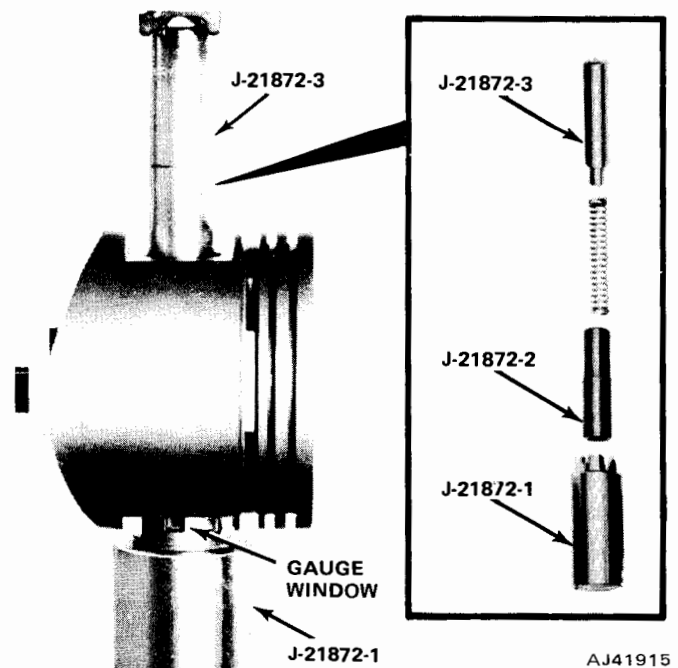

Fig. 1A-45 Piston Pin Removal or Installation
- (1) Insert Pin Pilot J-21872-2, through piston and connecting rod pin bores (fig. 1A-45).
- (2) Position pin pilot, piston, and connecting rod on Support J-21872-1.
- (3) Insert piston pin through upper piston pin bore and into connecting rod pin bore.
- (4) Position Piloted Driver J-21872-3 inside piston pin.
- (5) Using arbor press, press piston pin through connecting rod and piston until pin pilot indexes with mark on support.